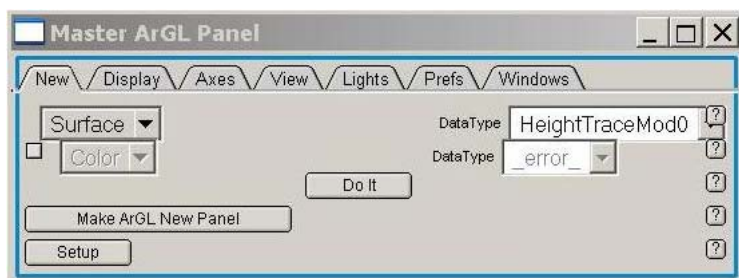

Figure 38: Master ARgyle Panel
- ✓ Click on the 3D button; the ARgyle menu (Figure 38) and the 3D image will come up. Notice the z scale is huge.
- To plot a real time image in 3D, go to MFP IP → 3D surface plots; this brings up the ARgyle Master Panel (Figure 38). From the pull down menu under the 'New' tab, select RealTime and click the 'Do It' button.